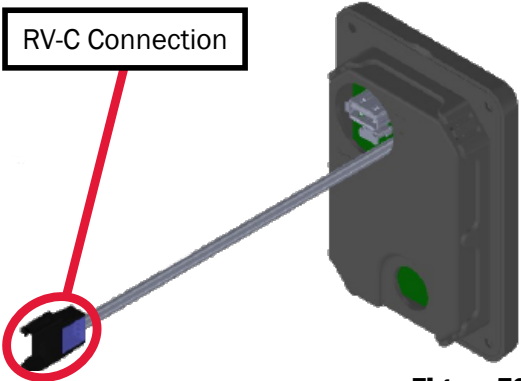

Figure 76
5. Connect the RV-C cable to the back of the LCD screen. Reference Figure 76.